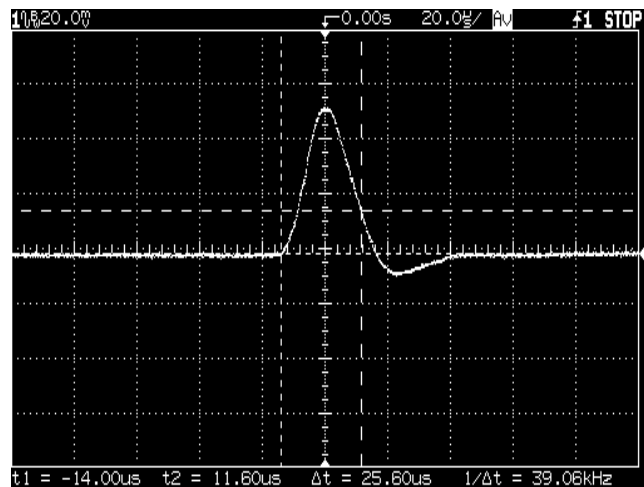

Figure A-4 Transient Response Time
- 5 Adjust the oscilloscope to display transients as shown in Figure A-4. Note that the pulse width (t2 - t1) of the transients at 15 mV from the base line is no more than 50 μ sec for the output.
- 6 Repeats steps (1) through (5) for the other output.